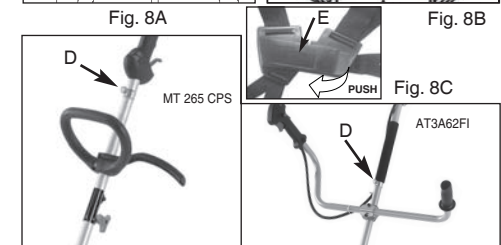

Fig. 8C
- 1b. For Model AT3A62FI, the shoulder straps are on your both shoulders. **NOTE:** Pull the black strip(E) in order to quickly release the harness from the operator in the event of emergency. (Fig 8C)